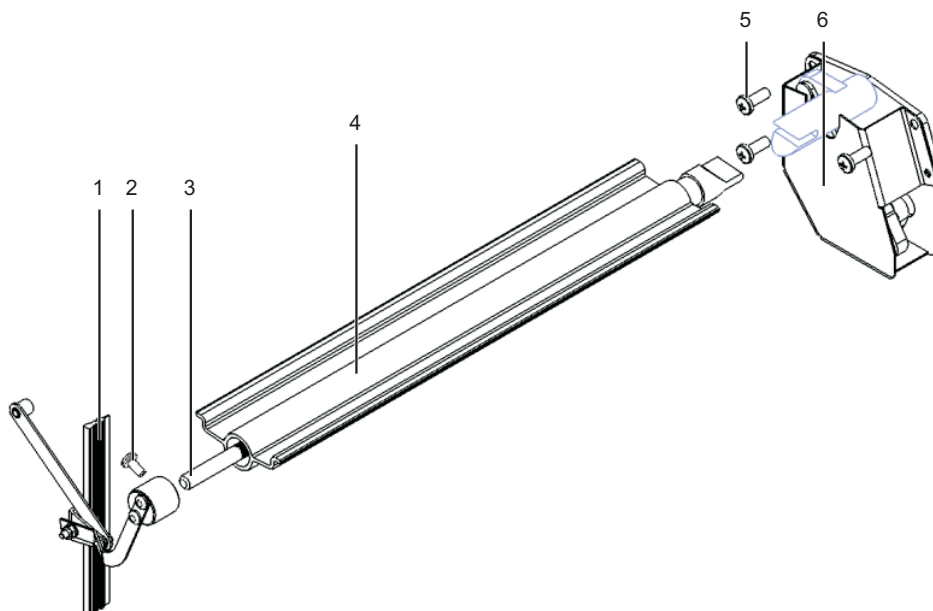
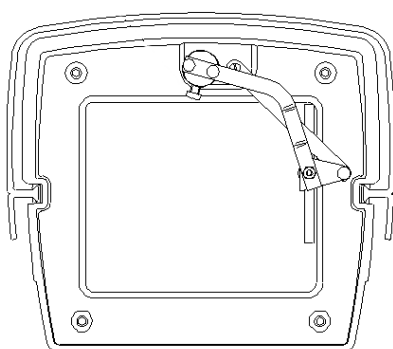

Fig. 3 Wiper assembly
Fig. 4 Wiper in park position
4. Slide the wiper shaft assembly through the guide, nylon collar towards the front cap. Carefully push the end of the shaft through the bearings in the front cap (see Fig. 3). Take care to not damage the o-ring seals in the Front Cap.
5. Secure the wiper drive unit into the rear cap, using the three off screws indicated on the exploded view (see Fig. 3). The drive unit is supplied in the PARK position.
8. Fit the wiper arm assembly onto the front cap. Ensure that the wiper blade is positioned correctly (shown in Fig. 4), tighten the mounting boss screw.
4. On release of the function the wiper must return to the 'park' position (see Fig. 4).
5. If the wiper does not return to the position shown in Fig. 4, but has parked, loosen the Mounting Boss Screw (see Fig. 3) and readjust the wiper arm to the desired position.